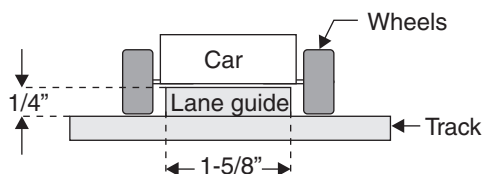

Figure 1. Car and lane guides.
- Width between wheels must be at least 1-3/4 inches (the lane guide is 1-5/8" wide so 1-3/4 provides 1/8" of clearance, see figure 1).
- Bottom clearance between the car and the track must be at least 3/8 inch (the lane guide is 1/4" thick so 3/8" provides 1/8" of clearance, see figure 1).